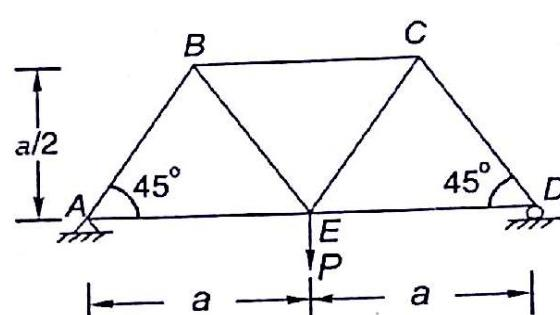

Fig. 9.34
- 9.3** A simple truss $ABCDE$, containing of 3 triangles is shown in Fig. 9.34. What is force in top member BC ?